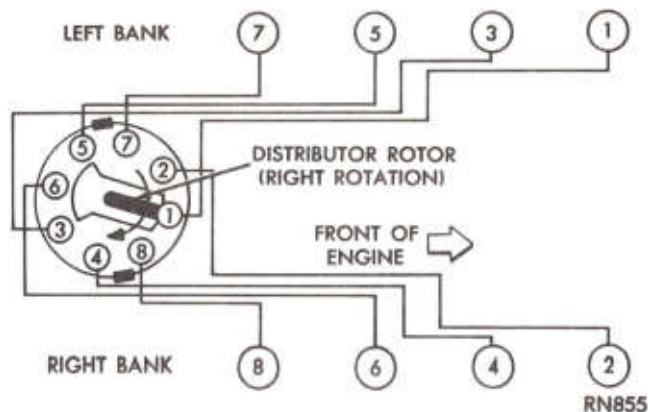

Fig. 39—Distributor with Rotor Positioned Under No. 1 Tower of Cap
- (1) Hold the distributor over the mounting pad on cylinder block with vacuum chamber pointing toward right front of engine.
- (2) Turn rotor until it points forward and to approximate location of No. 1 tower terminal in distributor cap (Fig. 39).
- (3) Place distributor O-ring in position.
- (4) Lower the distributor and engage the shaft in the slot of distributor drive shaft gear.